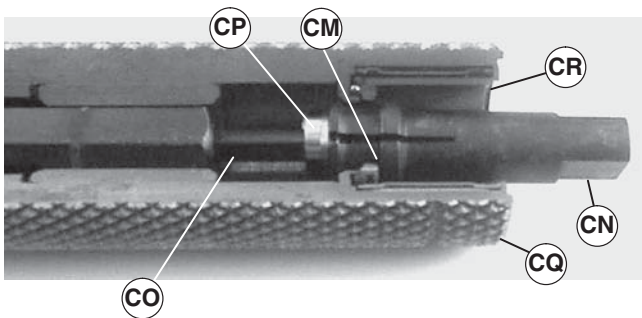

Figure 48
1. Insert bearing removal tool (part # 25-05*) (Figure 48, item CN) into the pulley (CQ) until shoulder (CM) seats against bottom of bearing (CR).